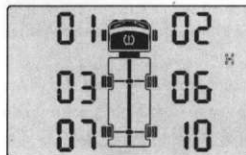
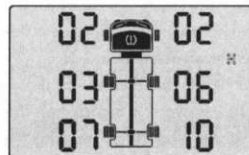

Figure 5-5-1
Figure 5-5-2
Hold SET 3s enter into parameter mode. Press Δ or ∇ to select to figure 5-5-1. Then press SET to enter into **the tire exchange setting**. Press SET to select the desired tire and press Δ or ∇ to change the tire position (Figure 5-5-2).
- 2 Press Δ or ∇ to select to figure 5-5-1